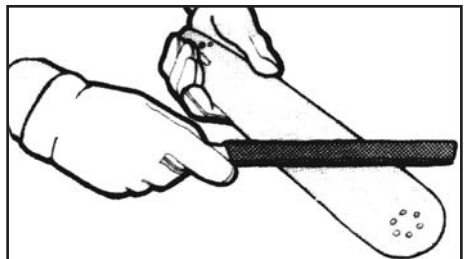

Fig. 23
2. Periodically trim the sides of the rails using a flat file. If not done in the long run the "feathered edges" might break away and damage the bar. (Fig.23)